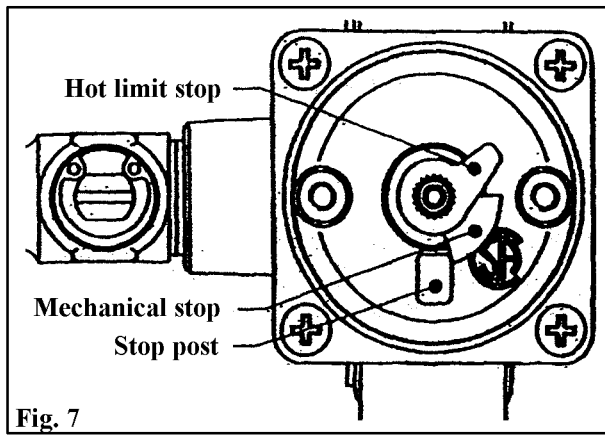

Fig. 7
- Remove the two screws (2) to remove the finished wall template (1).
- If the valve body is equipped with service stop valves (3), close the hot and cold water supplies. Otherwise, shut down the supply at the nearest source.
- Remove the screw (4) to remove the brass valve stem driver (5).
- Pay close attention to the setting of the hot limit stop and mechanical stop (See Fig. 7).
- Tighten the cover screws lightly in a diagonal pattern, then firmly close the valve by turning the cartridge stem clockwise. The stem driver can be used to turn the stem. Fit and position the hot limit stop and mechanical stop as shown in (Fig. 7) over the cartridge stem and push it into place.